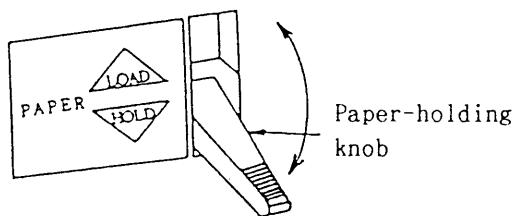

Fig. 3-2 Paper-holding Knob
- (1) Setting procedure is different according to the size of paper.
- (2) Lift the paper-holding knob to load the paper (Fig. 3-2).